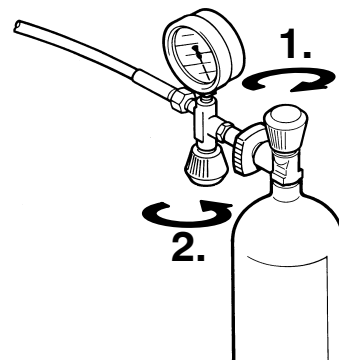

Abb. 10 Removing air bottle
- Upon reaching final bottle pressure **close bottle valve first** (1, Abb. 10), **then filling valve** by returning handle to closed position (2).